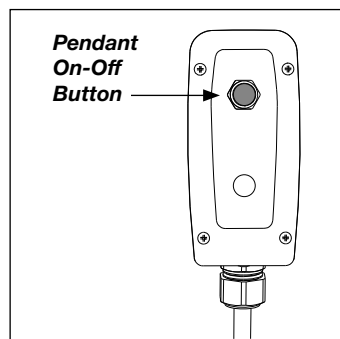

Figure 10, Pendant
5.3 Pendant Operation (See Figure 10)